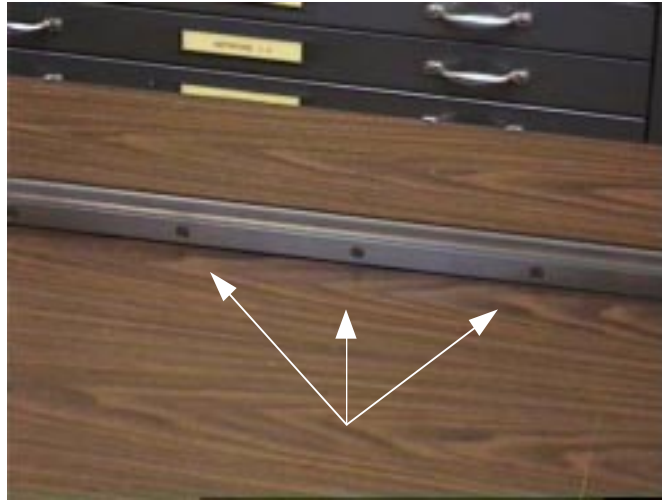

Fig. 4
6) Remove seven 6-32 allen screws that hold the long knife onto the knife stiffener. (Fig. 4)